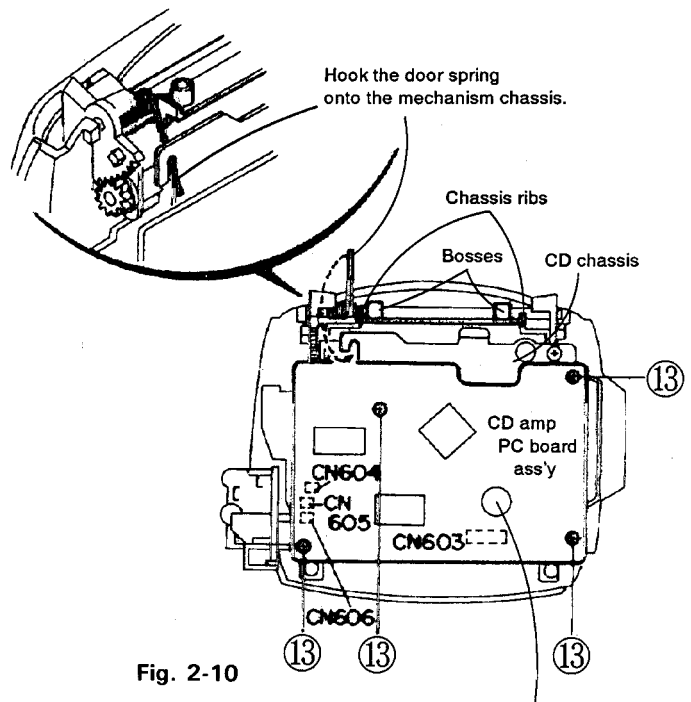

Fig. 2-10
- 2) Reinstall the chassis. (see Figure 2-10)
- 3) Hook the door spring onto the mechanism chassis (metal)(as indicated by a dotted line in Figure 2-10).